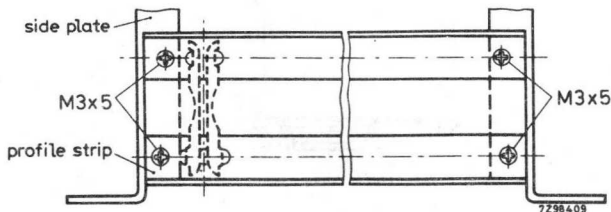

Fig. 8
2. Attach both side plates to the profile strips by means of 12 screws M3x5 (2 back strips plus upper front strip) and 4 screws M3x8 (lower front strip). See Figs. 8 and 9.